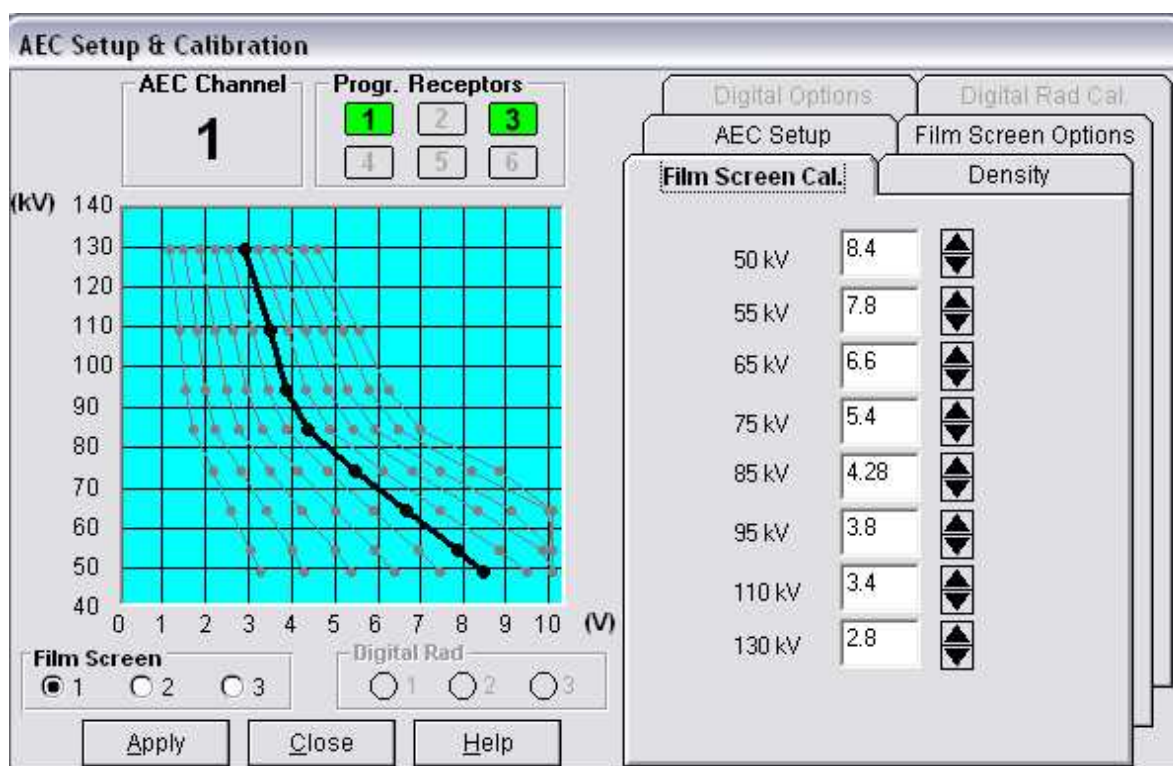

Figure 3D-9: GenWare® AEC Setup & Calibration window, Film Screen Cal. tab
1.	Set up the X-ray tube stand as shown in figure 3D-8.